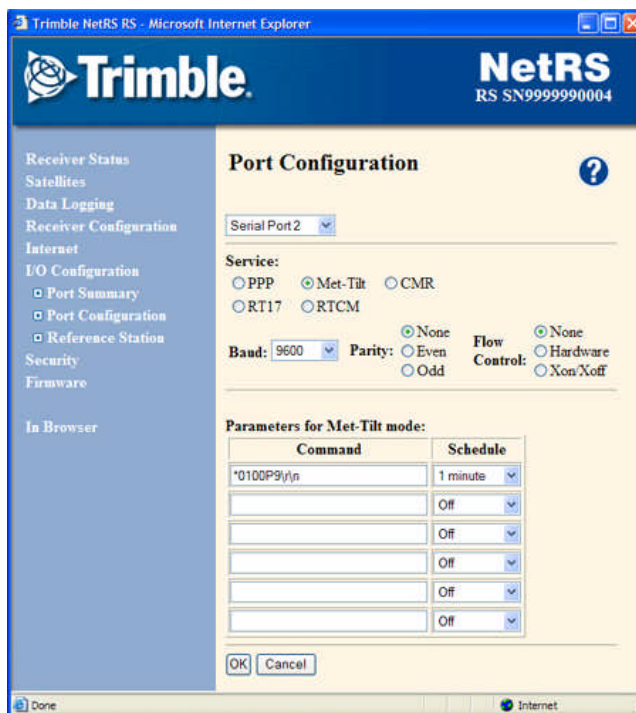

Figure 13. Trimble NetRS MET Port Configuration
- n. In the **I/O Configuration** page, click on the **Serial Port 2** link. This opens the **Port Configuration** window. In this window, click on the **Met-Tilt** option. This will bring up the window in Figure 13.